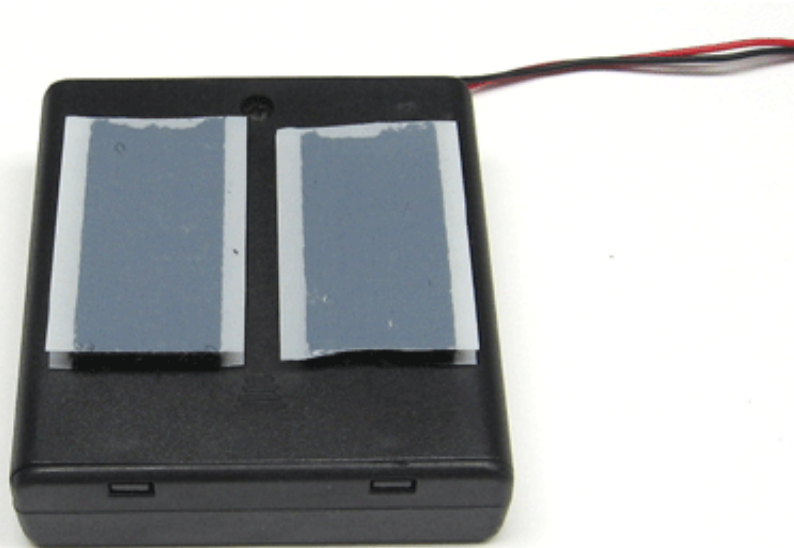

Figure 7. Velcro strips attached to the battery pack.
- 3. Keeping the two sides of the velcro together, peel the backing from one side of each strip and press the two strips onto the battery pack, as shown in Figure 7.**